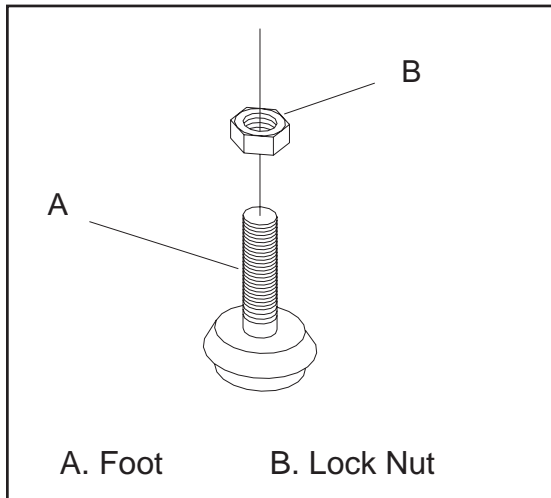

Figure 9. Foot Assembly
2. Turn the lock nut on the leveling foot until it stops in a position as close to the black rubber pad as possible. See Figure 9.